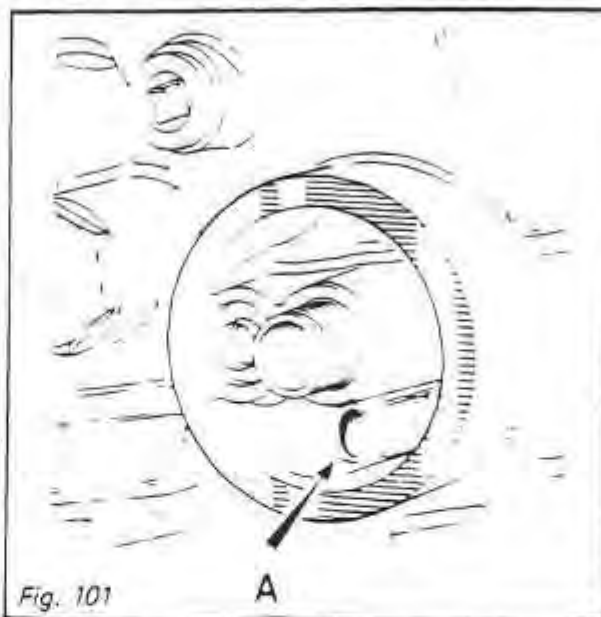

Fig. 101
through hole (A) to prime oil pump) (Fig. 101)